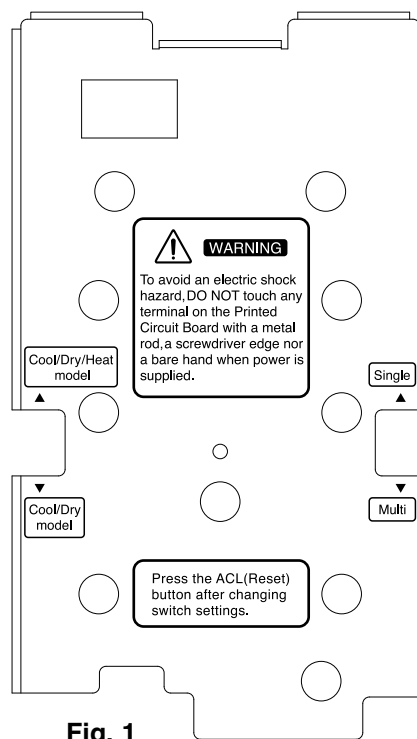

Fig. 1
- The remote controller is set to "Cool/Dry/Heat model" at the time of shipment from the factory. If the purchased air conditioner is a COOL/DRY model, follow the instructions on the label and change the switch on the reverse side of the remote controller unit to "Cool/Dry model". (Fig. 1)
- The remote controller is also set to "Single" at the time of shipment from the factory. For multiple use, set the switch on the reverse side of the remote controller unit to "Multi". (Fig. 1)